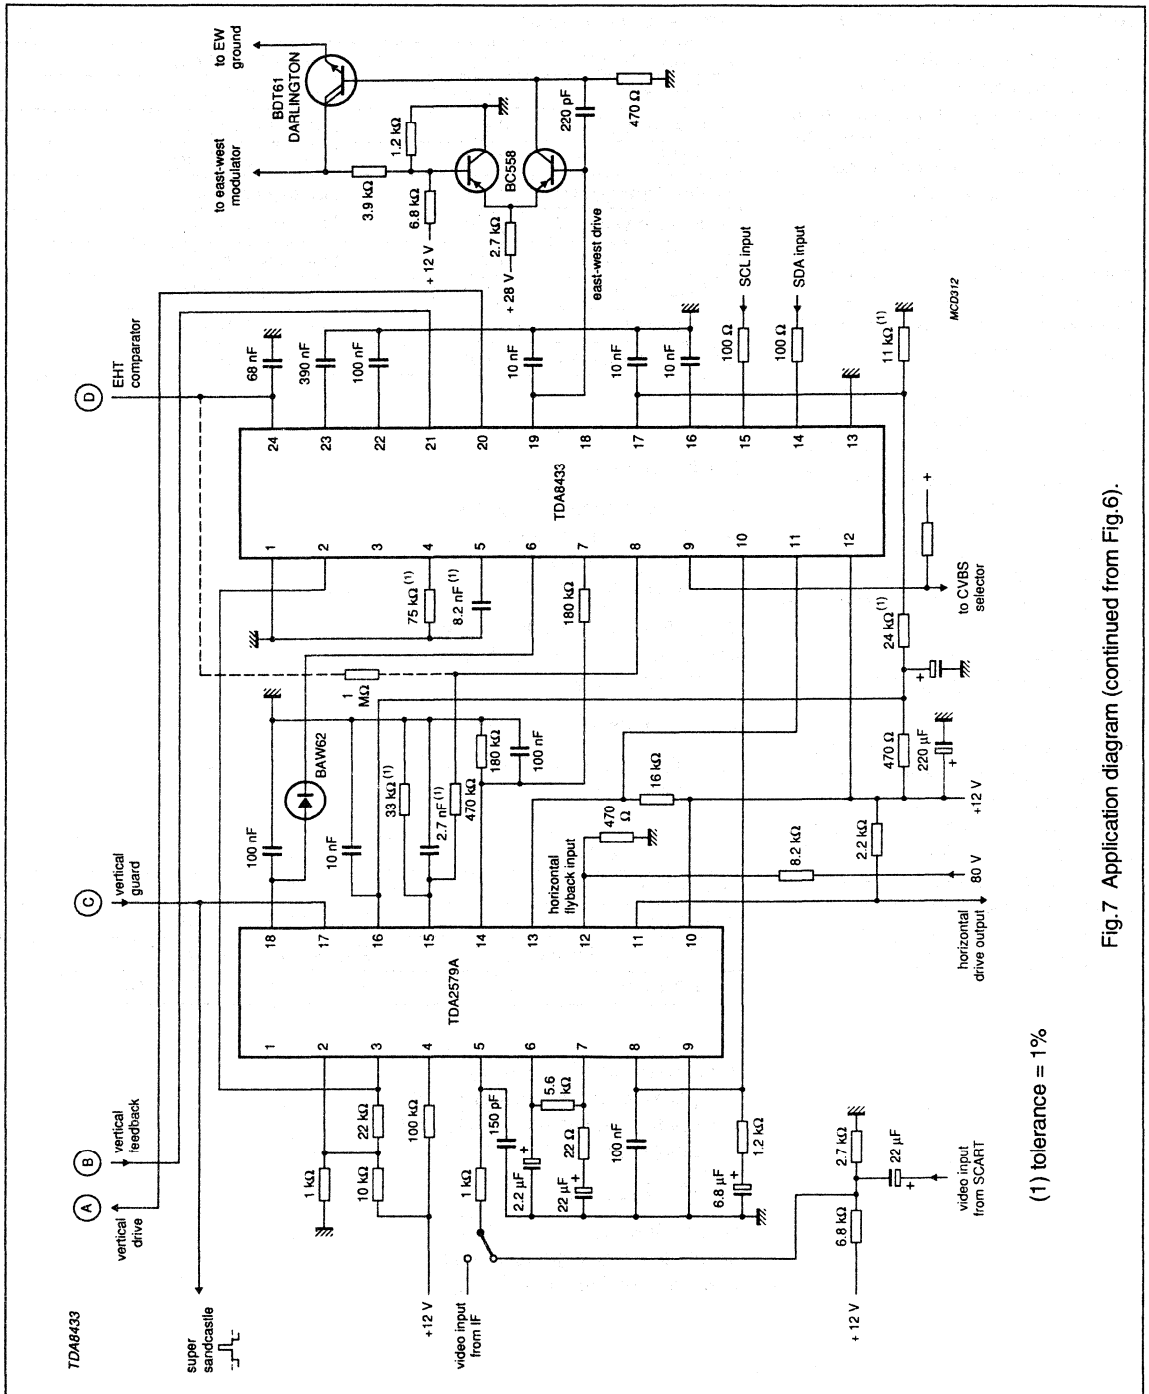

Fig.7 Application diagram (continued from Fig.6).
The formulae from which the typical vertical drive and typical E-W drive waveforms are generated are given in the following sub-paragraphs. For this purpose a typical application diagram for the vertical drive stage is assumed to be as illustrated in Fig.7. Pin 20 is the vertical drive output which drives an inverting power amplifier. The feedback network, R1 to R4 and C1 and C2, has two functions;
This function is meant to compensate for non-linearity of AC coupled vertical output stages. The linearity correction changes proportionally to the picture height setting. The range for linearity control is typically 17% of the peak-to-peak value of the linear sawtooth (see Fig.7).
The range for the V-S correction (SA^2) is defined as a percentage of the undistorted peak-to-peak sawtooth voltage (see Fig.7). The actual S-correction component (SA^2) is dependent on the the picture height setting where:
- The maximum possible trapezium output is 1.6 V (typical - see Fig.7). This is the case where: $a = 0.5$, $c = 0$ and $p = 1$ i.e. no corner correction and the maximum parabola correction at nominal picture height settings.